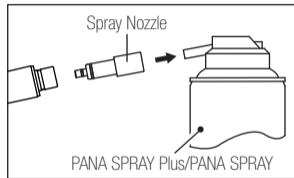

Fig. 8
- 3) Insert the Spray Nozzle in rear of the handpiece. Hold the handpiece and spray for approximately 2-3 seconds. Apply lubricant until it expels from the handpiece head for at least 2 seconds. (Fig.8)
- 3) Lubricate the handpiece by using NSK PANA SPRAY Plus/PANA SPRAY (Fig. 8, 9) or Care3 Plus.